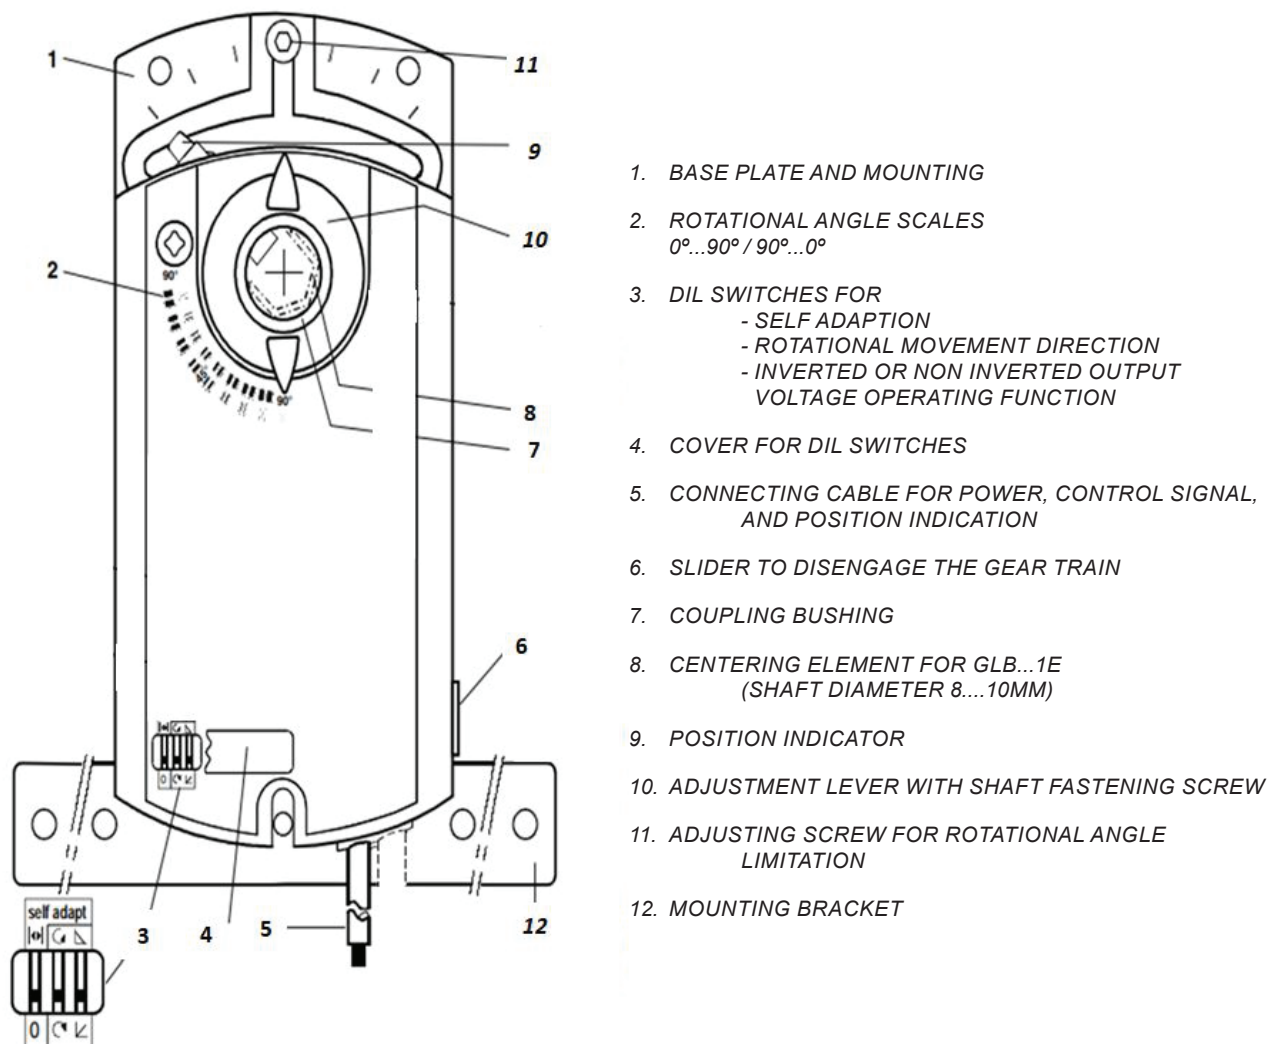

Figure 17: Modulating Motor
3. Set modulating motor to 90° and install over the adaptor shaft. Tighten no.9 SHCS in Figure 17: Modulating Motor onto Adaptor Shaft.